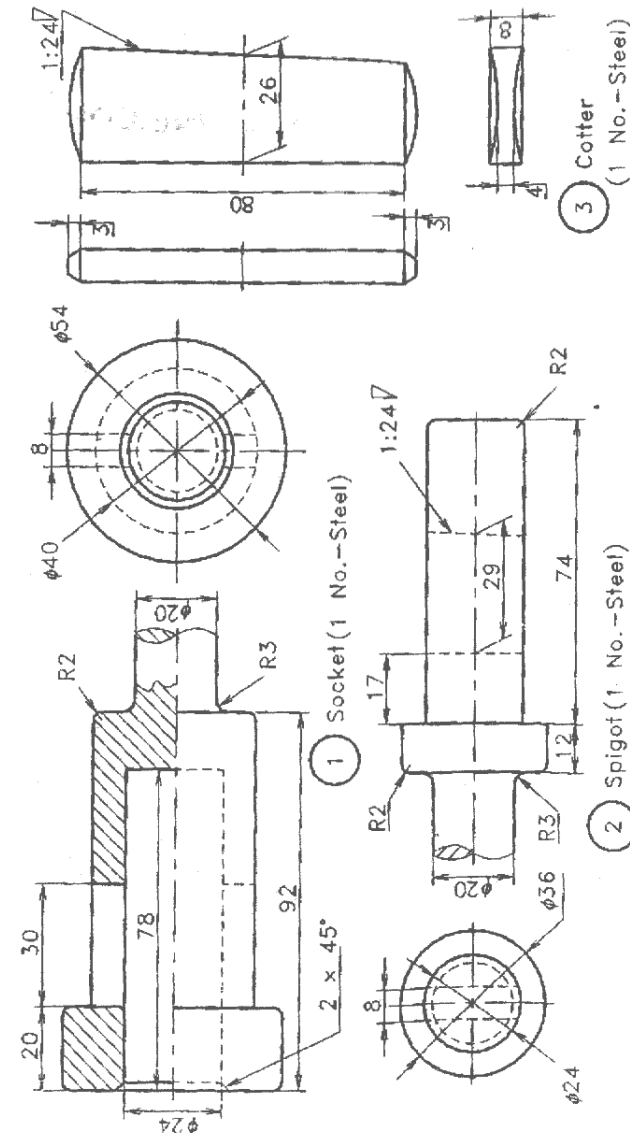

fig.2
3. The part details of a socket and spigot joint are given in fig.2. Assemble them and draw